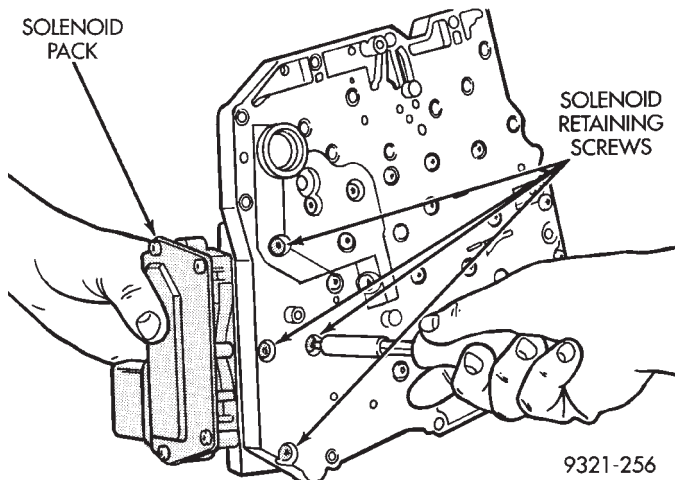

Fig. 68 Solenoid Pack Location
- (2) Remove Manual Valve Lever Position Sensor (MVLPS) and manual shift lever.
- (3) Remove solenoid pack from valve body (Fig. 68).